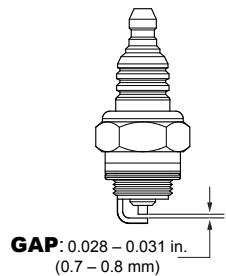

Figure 26. Spark Plug Gap
3. Remove and clean the spark plug (See Figure 26), then adjust the spark gap to 0.028~0.031 inch (0.6~0.7 mm). This unit has electronic ignition, which requires no adjustments.